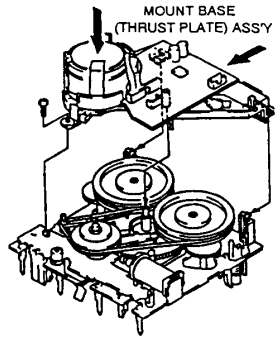

Fig. 13
- Reinstall the mount base (thrust plate) assembly (fig. 13).